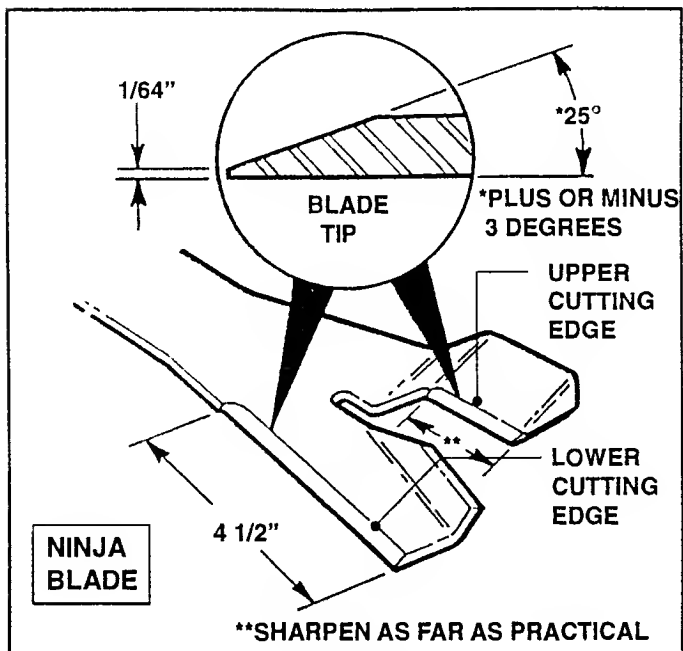

FIGURE 9.7
- C. Sharpen both cutting edges on each end of the blade at an angle of 22 to 28 degrees. The cutting surface should extend inward about 4 1/2" from the tip of the lower cutting edge and as far as practical from the tip of the upper cutting edge. See Figure 9.7 on Page 9.5.